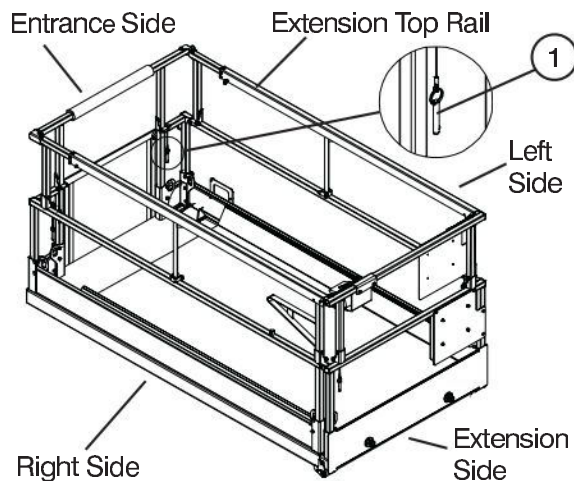

Figure 3-11a. Folding Guardrail System
- Carefully raise each guardrail up and lock into place with locking pins ensuring that the detent ball of each pin is all the way through (Refer to Figure 3-11a).